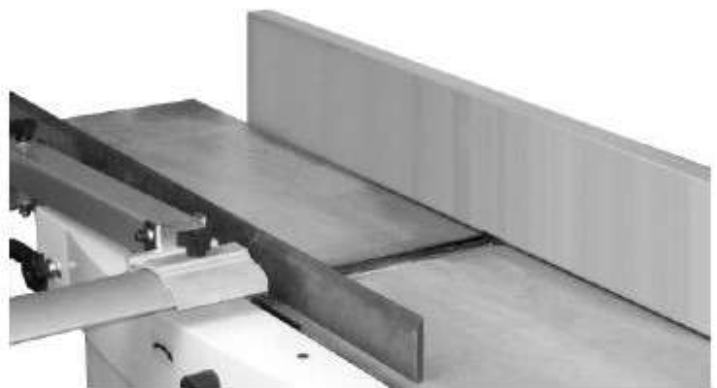

Figure 9
5. Set a straightedge (J) on the outfeed table (F) near the fence (H). One end of the straightedge should be positioned over the cutting knife (C) near the end of the blade as shown in Fig. 9.